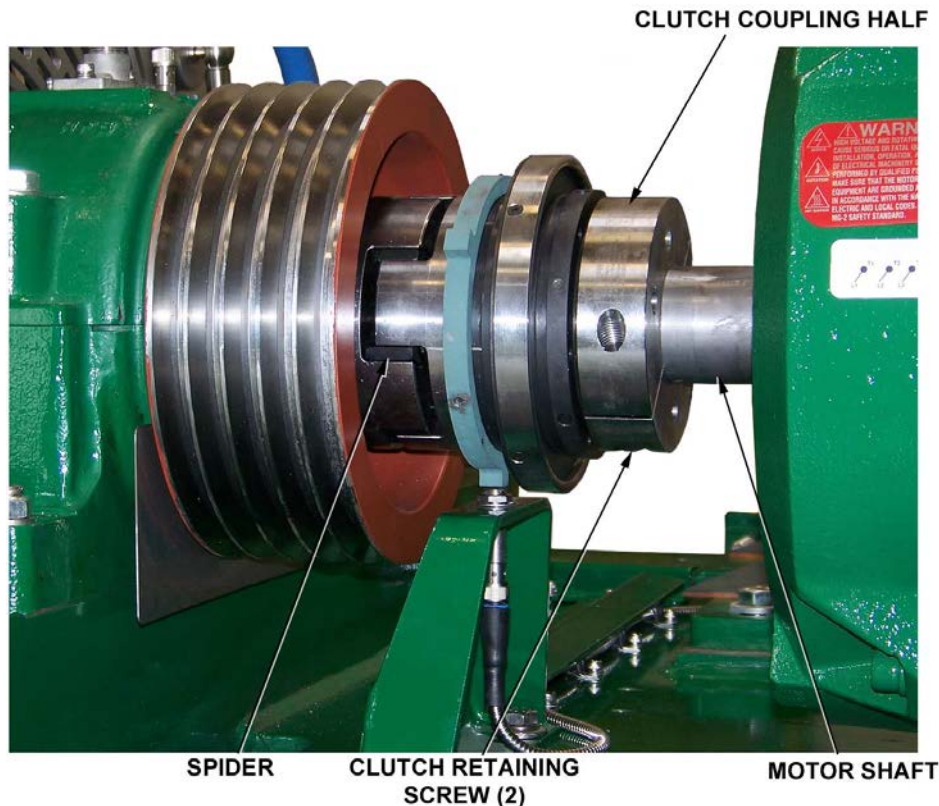

Figure 5-4. Conveyor Torque Limiter Clutch
5. Loosen screws securing torque limiter clutch half to conveyor drive motor shaft (Figure 5-4), slide coupling half toward motor until end of motor shaft is visible, and remove spider.